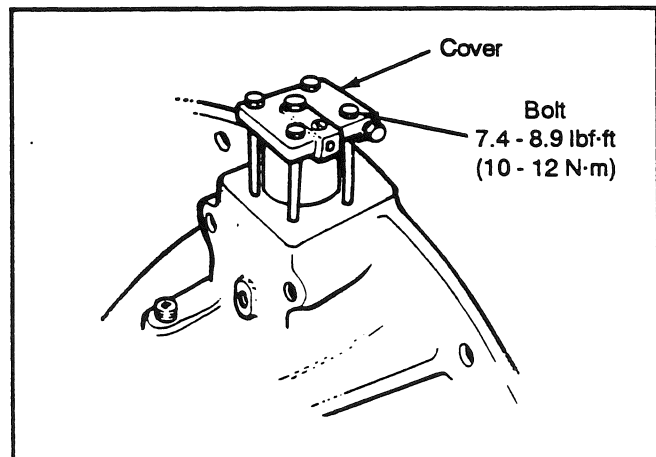

Fig. 93
4. Install the copper gasket into its bore on the inside of the cover. Place the cover over the tube so that the hydraulic port points up when the carrier is installed into the final drive housing. Secure the cover with four bolts and lockwashers. Tighten the bolts to the specified torque (see Fig. 93).